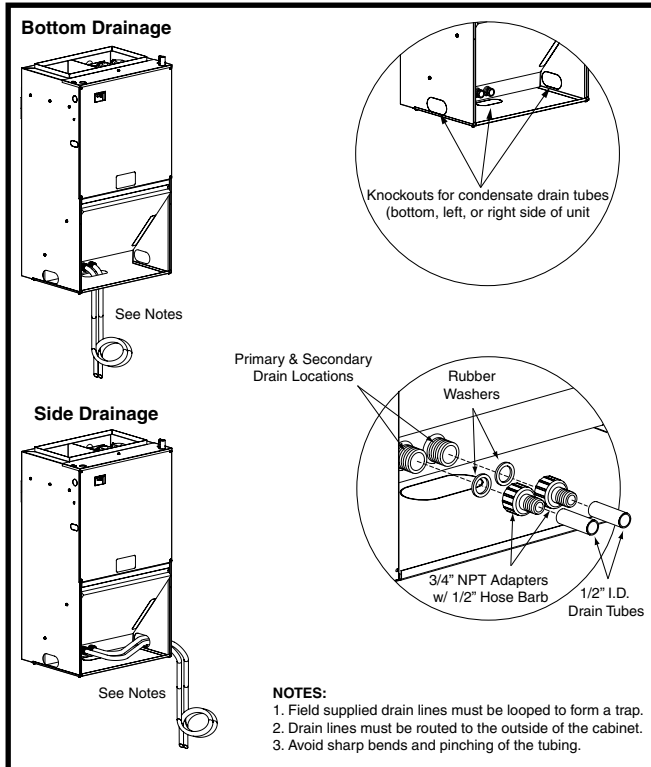

Figure 2. Condensate Drainage
The drain pan that is supplied with this air handler contains a primary and secondary drain fitting. The condensate is drained from the unit through two 3/4" male pipe fittings located on the front side of the unit as shown in Figure 2 \(page 8\).
- Drain pan MUST be drained with field supplied tubing and looped to form a trap. Failure to install a trap could result in condensation overflowing the drain pan, resulting in substantial water damage to surrounding area. Both drains must be trapped separately. See Figure 2.